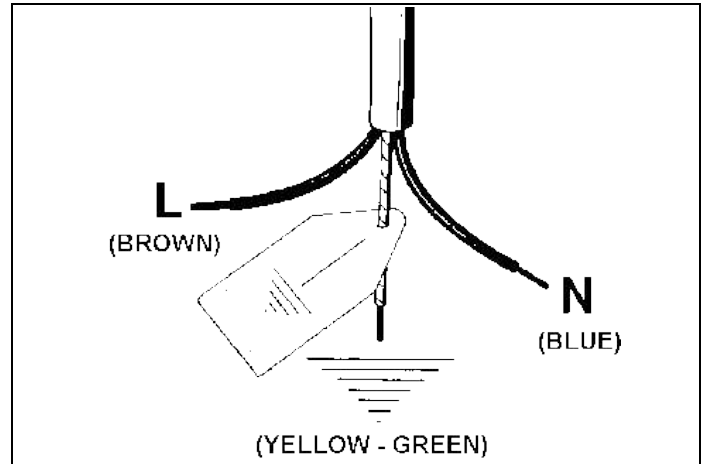

Fig. 10
- If the power cord does not already have a plug, fit a regulation plug, which must be suitable for the rated load specified on the appliance data plate. Connect the wires of the power cord in accordance with the diagram in Fig. 10, ensuring you follow the harmonized wiring color scheme: